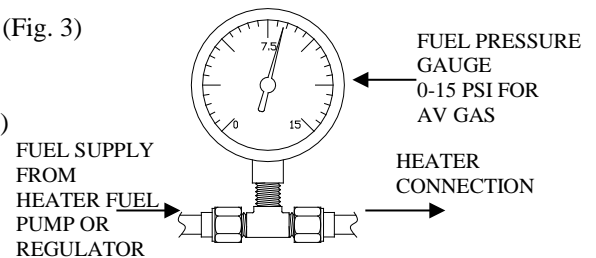

Figure 3
6.1.3 Install the fuel pressure gauge (0-15). Tee into as shown. (Fig. 3)